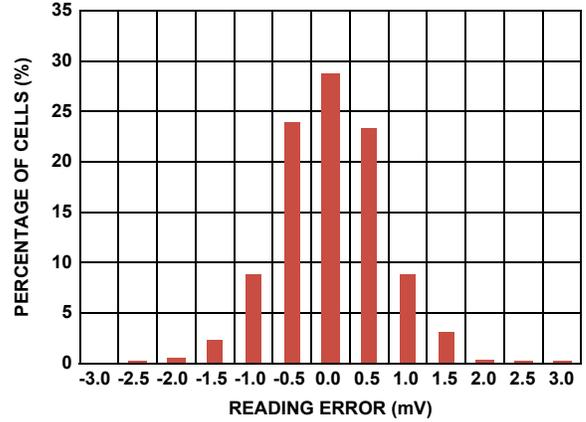

FIGURE 4B. CELL READING ERROR FROM 114 EVALUATION BOARDS AT 3.3V, +25°C HISTOGRAM
- Stresses may be induced in the ISL78600 during soldering or other high temperature events that affect measurement accuracy. Initial accuracy does not include effects due to this. See Figure 4B for cell reading accuracy obtained after soldering to Intersil evaluation boards. When soldering the ISL78600 to a customized circuit board with a layout or construction significantly differing from the Intersil evaluation board, design verification tests should be applied to determine drift due to soldering and over lifetime.